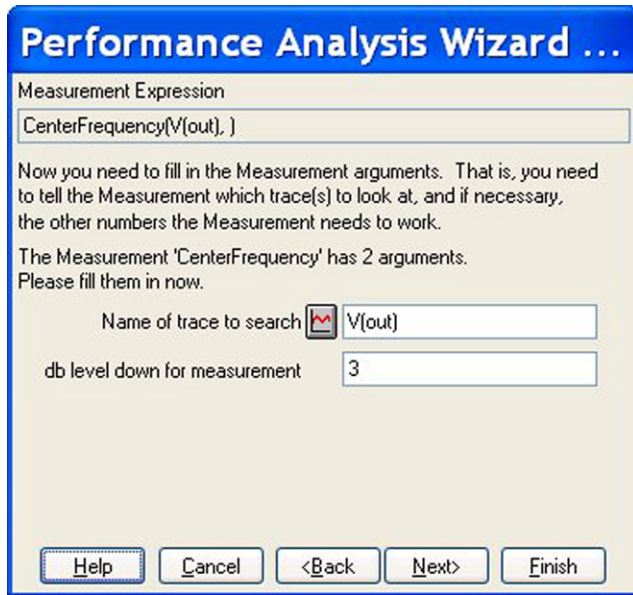

FIGURE 10.13
3. In the **Measurement Expression** window (**Figure 10.13**), enter the name of the trace to search as **V(out)**. Alternatively, you can click on the **Name of trace to search** icon  and search for the trace name, **V(out)**. Enter a value of 3 for the **db level down for measurement** as shown. The center frequency of the filter will be measured 3 dB down either side of the maximum value for the Monte Carlo nominal run (no component tolerances applied). Click on **Next** in the **Performance Analysis Wizard**.